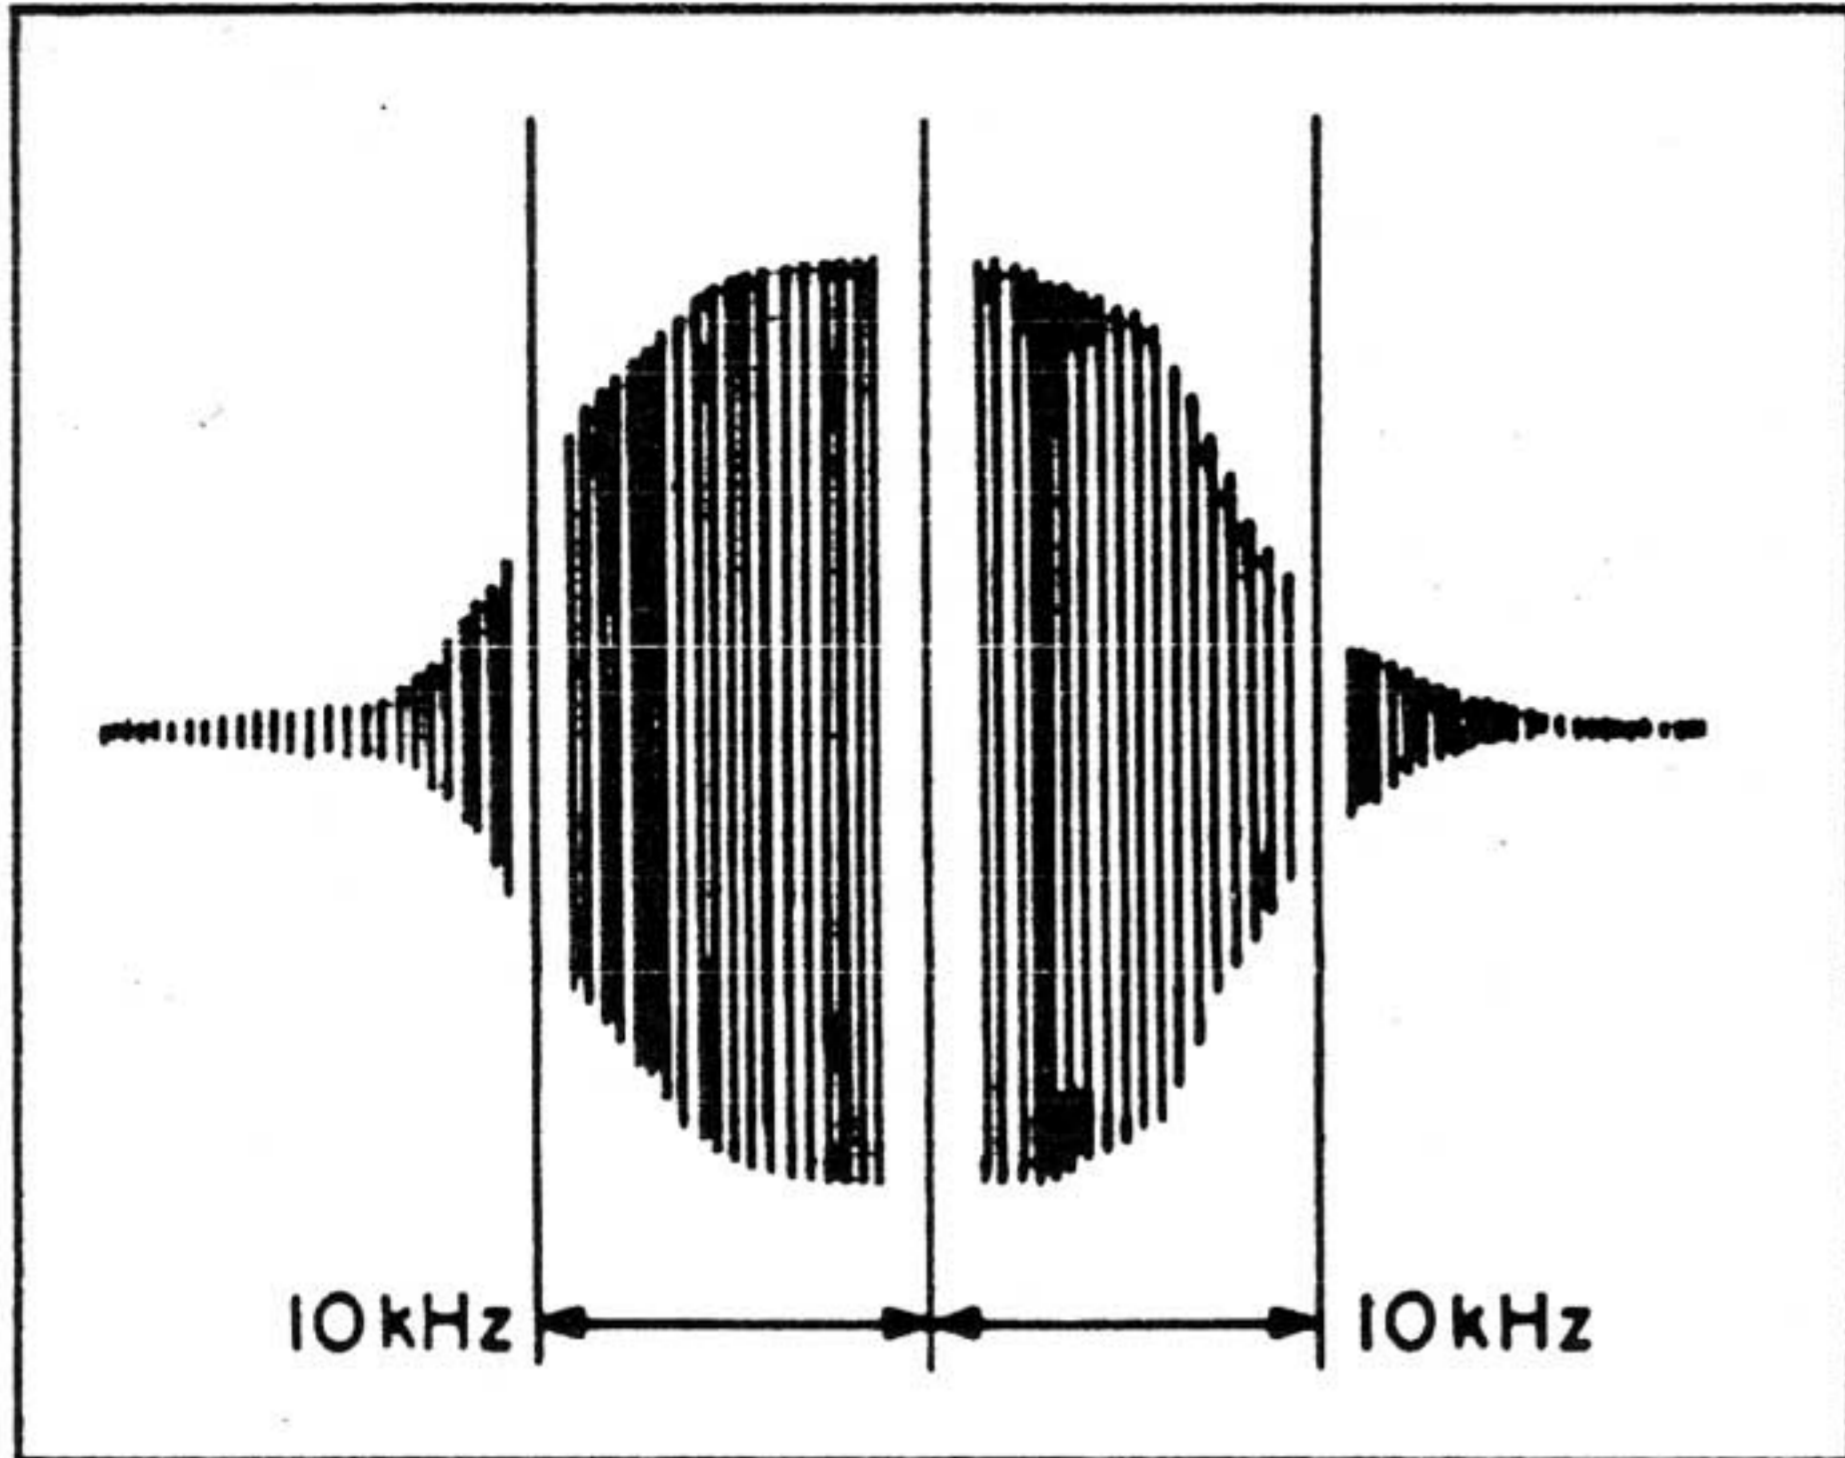

Figure 14.
(1) Connect 455 kHz sweep generator to Test Point 502 (pin 5N on AM RF board). Use a 0.1 μ F capacitor in series with the generator lead. Connect generator ground to pin 5C.
(2) Connect vertical input of scope to Test Point 503 (pin 5R on AM RF board). Connect scope ground to pin 5J.
(3) Temporarily disconnect IF output lead from pin 5K. Adjust generator level and sweep to observe IF response curve. Set generator output as low as possible.
(4) Align top and bottom cores of Z503 (on AM RF board) for maximum gain and symmetry (see Figure 14). Reconnect